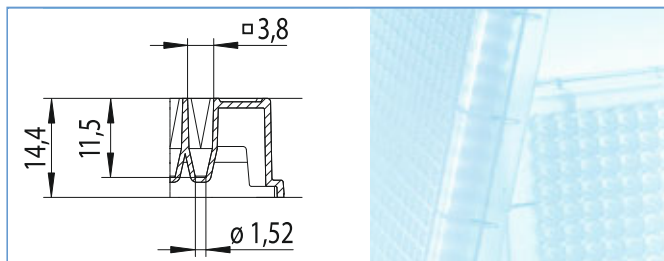

Figure 1:
- ☞ Large working volume from 1 µl to 90 µl (Fig. 1)